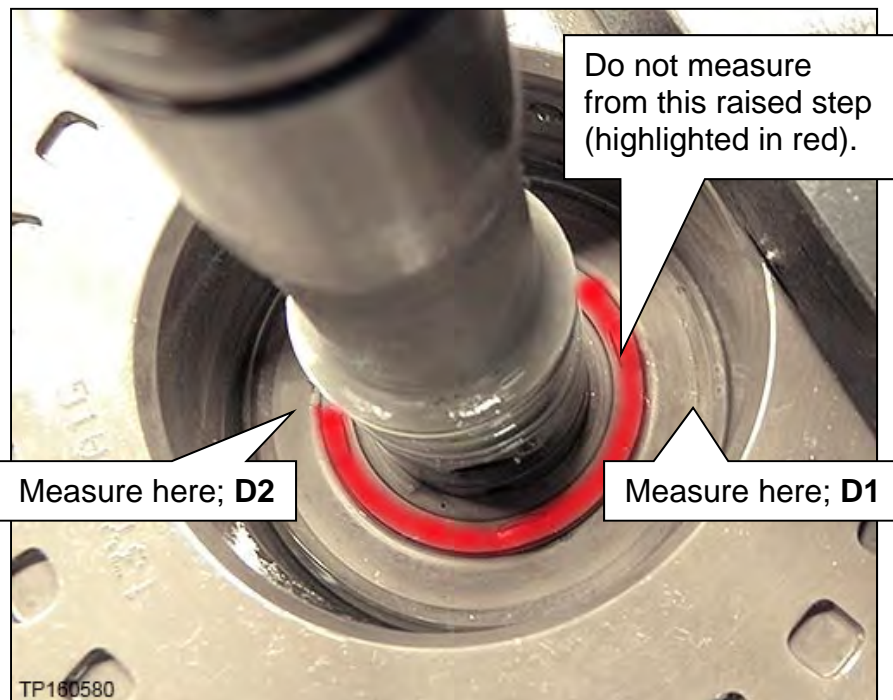

Figure 126
**HINT:** Do not measure from the clutch assembly bore shown in red (Figure 126).